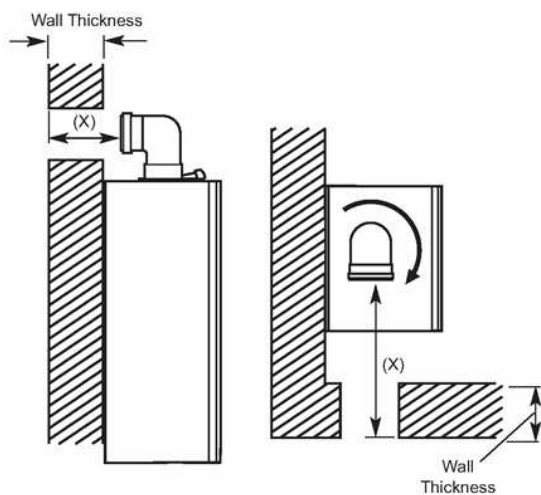

Fig. 25
3. Locate the flue elbow on the adaptor at the top of the boiler. Set the elbow to the required orientation (Fig. 25).
4. Measure the distance from the outside wall face to the elbow. This dimension will be known as "X" (Fig. 25).
5. If the distance from the flue elbow to the outside face of the wall ("X" in Fig. 25) is less than 250mm the Connection Assembly can be discarded and the Terminal Assembly fitted directly into the elbow.
6. In instances where the dimension "X" (Fig. 25) is between 250mm and 315mm it will be necessary to shorten the Terminal Assembly by careful cutting to accommodate walls of these thicknesses.